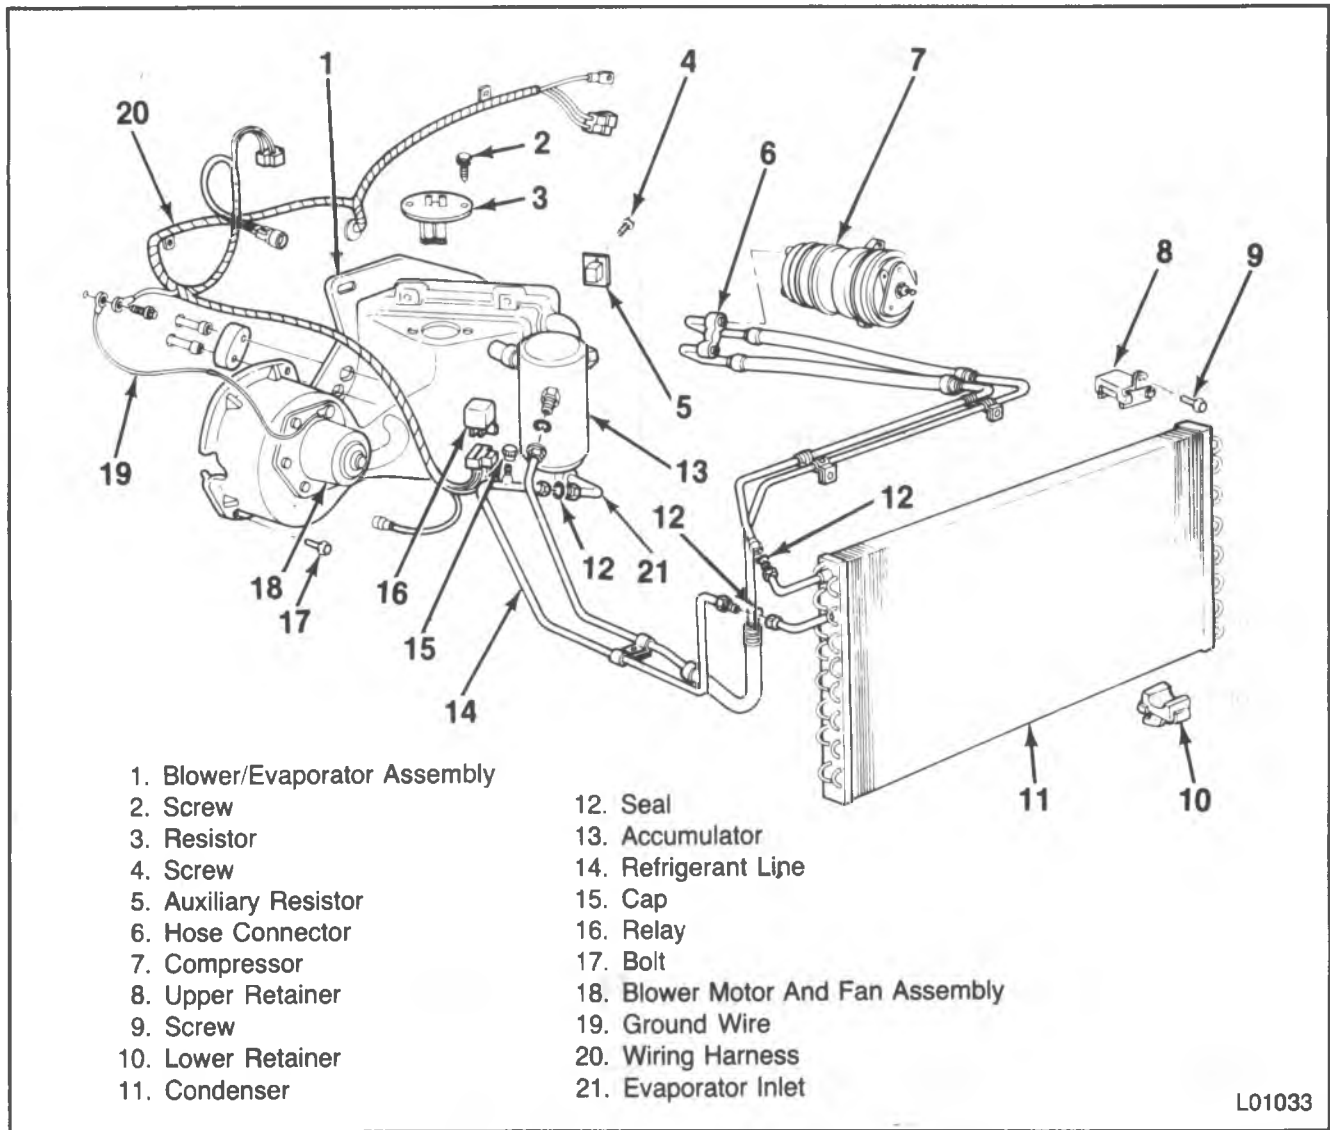

Figure 37 — Air Conditioning System Component View — R/V
↔ Remove or Disconnect (Figures 37 and 38)
6. Condenser refrigerant lines (figure 37).
↔ Install or Connect (Figures 37 and 38)
⇄ Remove or Disconnect (Figures 37 and 39)
⇄ Install or Connect (Figures 37 and 39)
Remove or Disconnect (Figures 37, 39 and 40)
Install or Connect (Figures 37, 39 and 40)
Remove or Disconnect (Figures 37 and 39)
Install or Connect (Figures 37 and 39)